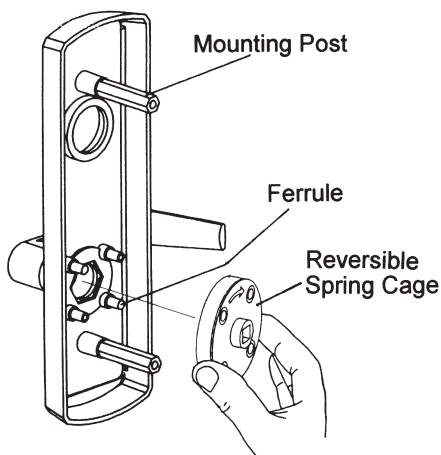

Figure 6-1
1. Make sure the direction of outside trim to be installed that corresponds with the door handing. Place the spring cage onto ferrules with arrow pointing in direction of lever rotation. If it is not oriented correctly, turn the spring cage 180° (see Figure 6-1).